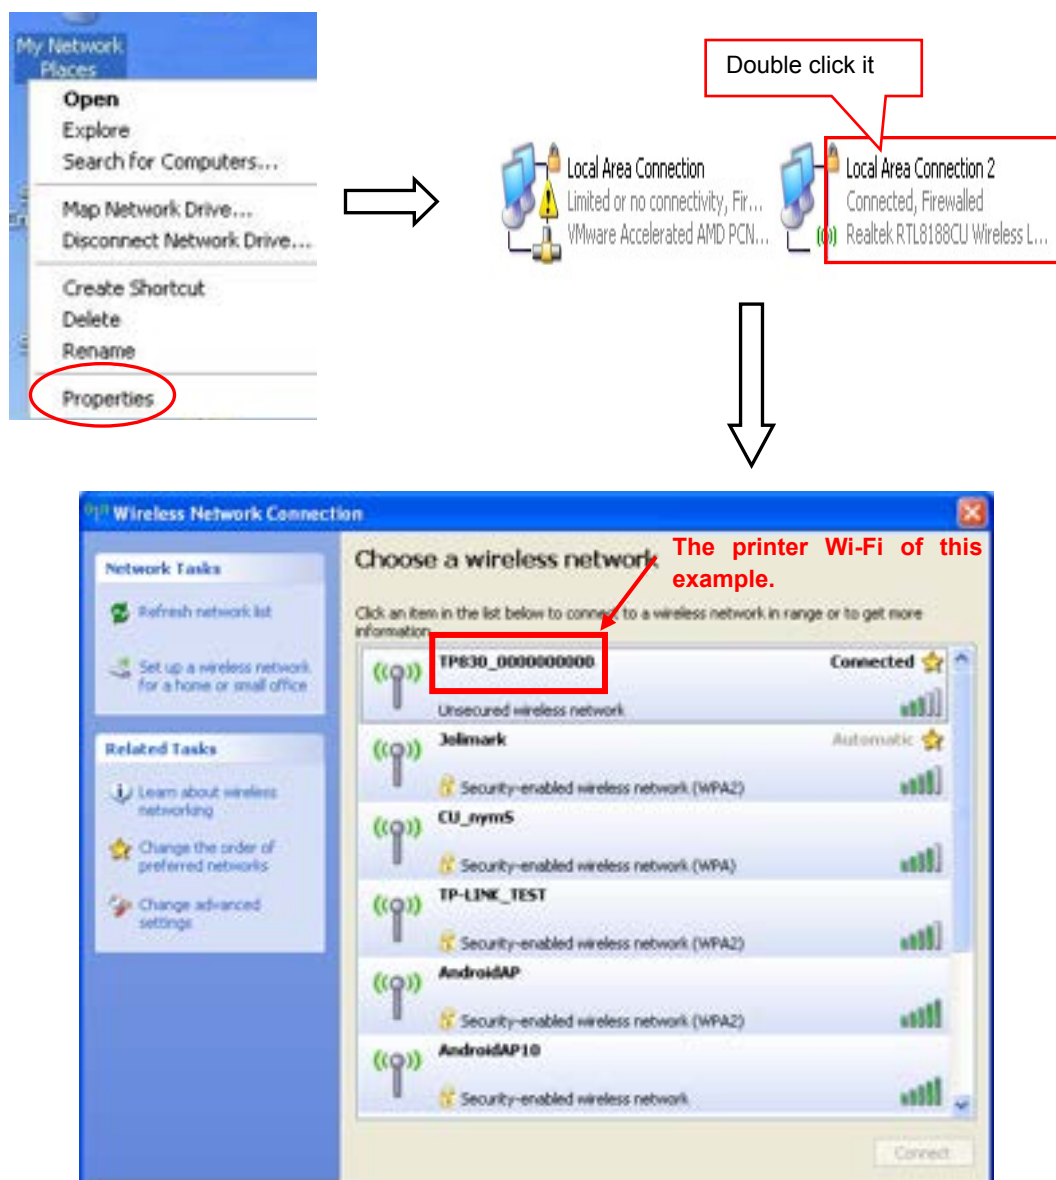

Figure 1
2. Right click "My Network Places", and then click "Properties" to find the "Local Area Connection 2". Double click it and the window of "Wireless Network Connection" pops up, select and double click the corresponding printer Wi-Fi name. The printer Wi-Fi default name is composed by "the printer model+10 SN numbers" (as shown in Figure 1)